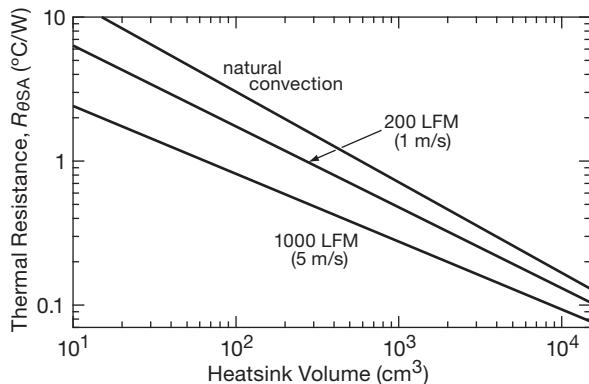

Figure 9.43. Rough guide to heatsink size needed for a given thermal resistance from sink to ambient ($R_{\theta SA}$).
3. Figure 9.43, adapted from the Wakefield Engineering heatsink literature, gives a rough estimate of the physical volume of heatsink required to achieve a given thermal resistance. Note that curves are given for still air (natural convection) and for two values of forced air flow. Don't take these curves too literally – we just gathered data from a half dozen representative heatsinks, and then drew trend lines through them; they're probably good to a factor of two, but don't rely on it (or, at least, don't complain to us later!).